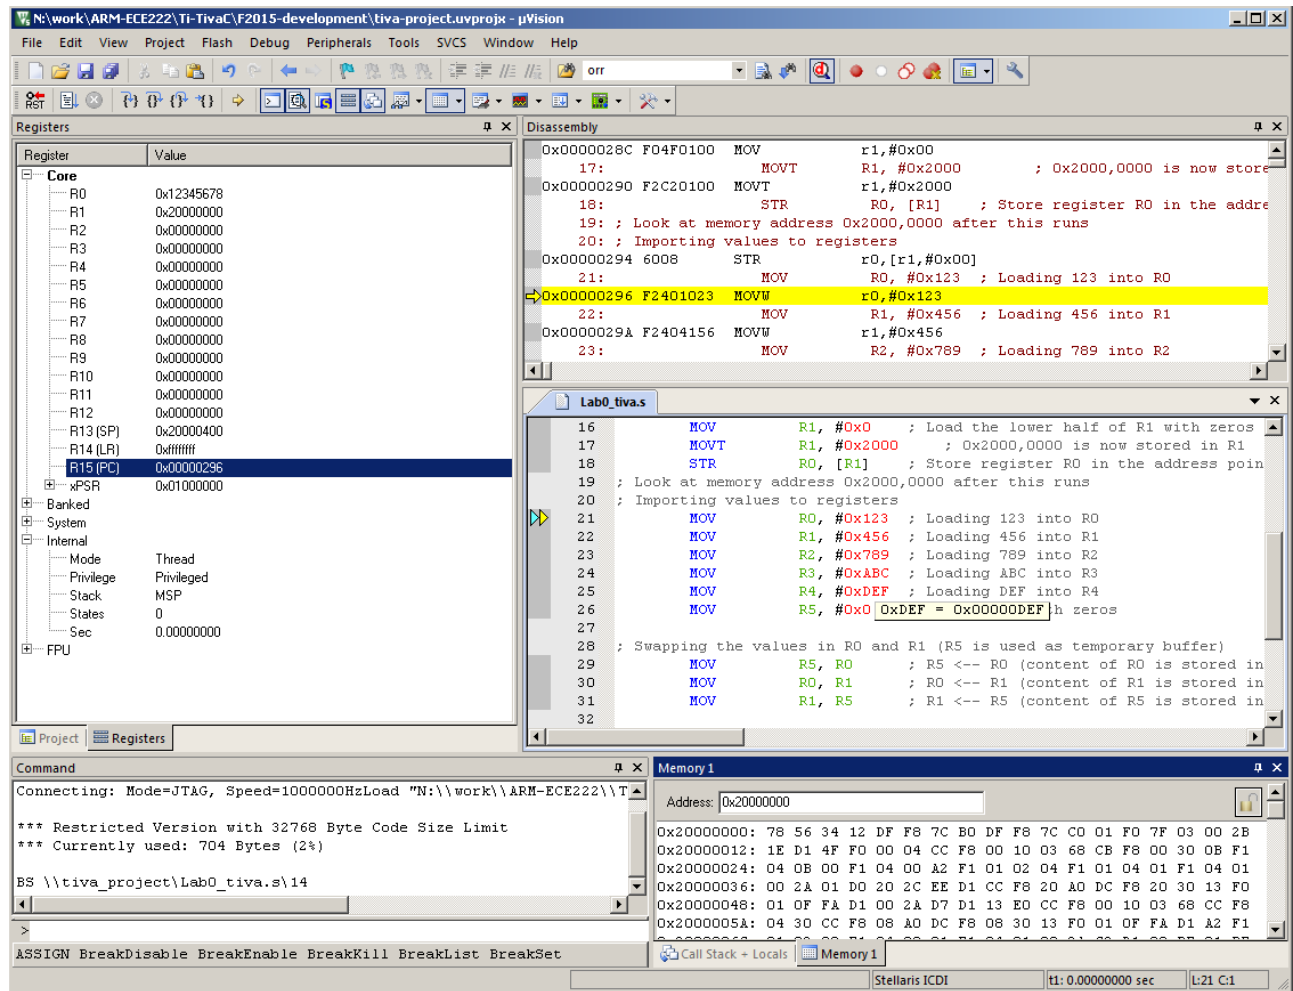

Figure 1.5 – Debug session in µVision software [5]
- 3 Click **OK** when presented with the message about being in “Evaluation Mode.” Your screen should now resemble Figure 1.5